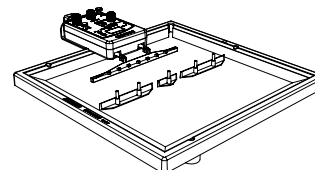

Figure 4.2: Position of Barriers
- Place the short barrier between the two long barriers in the water to form two openings that are 2 cm long. Put the barriers parallel to the plane wave dipper as shown in Figure 4.2. Set the barriers about 5 cm from the plane wave dipper.